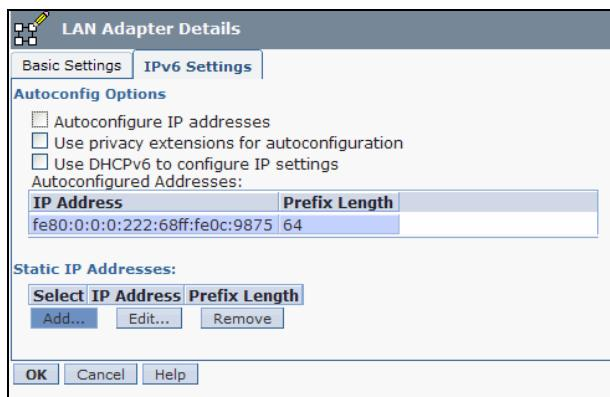

Figure 9-9 WebUI IPv6 settings window
- Click the **Add...** button to add a static IP address to this adapter. Figure 9-9 shows the LAN Adapter Details window where you can configure the IPv6 values.